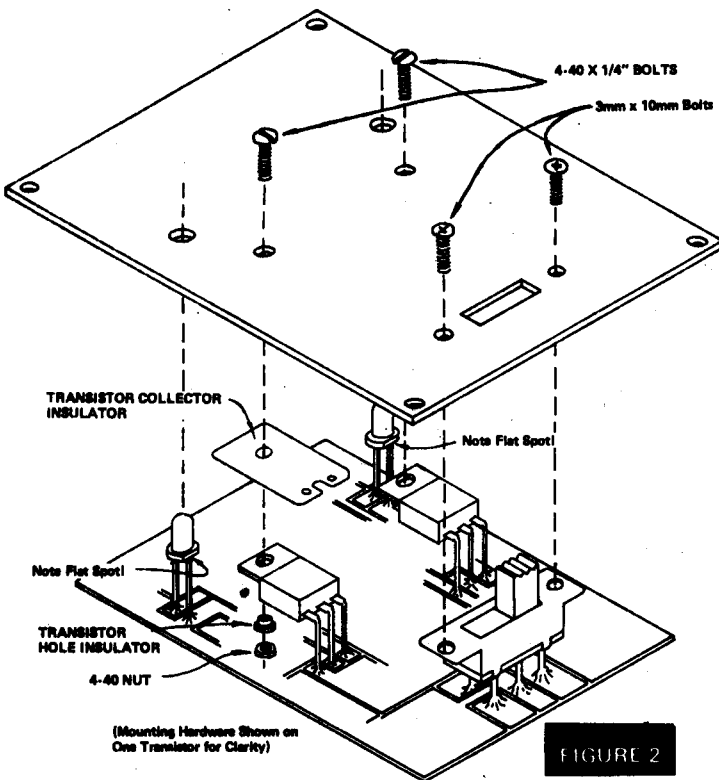

FIGURE 2
- () Referring to Figure 2, install switch by laying the PC board PC LAND side up on a flat surface and inserting switch lugs into slots. Make sure lugs are flush with opposite side of PC Board and the switch is perpendicular with the board before and during soldering.
- () Install the transistors Q1R and Q1T on the PC LAND side of the PC board as shown in Fig. 2. Before soldering, trial fit the faceplate for proper lead bend and height off the board. Solder the transistors to the board, checking fit before clipping the leads flush with the component side of the board.
- () Install LED's D2R and D2T on the PC LAND side of the board as shown in Fig. 2, maintaining proper orientation of the flat side on the LED. Check for the proper height off the board using the faceplate before soldering and clipping the excess leads off flush with the component side of the board.
() Referring to Fig. 2, bolt transistors Q1R and Q1T to the faceplate using the mounting hardware illustrated. Make sure the transistor collector insulator is centered and the metal of the transistor is not contacting the faceplate. Note the shoulder of the hole insulator goes into the hole and lays flush on the transistor tab. Just snug down the nut for now.